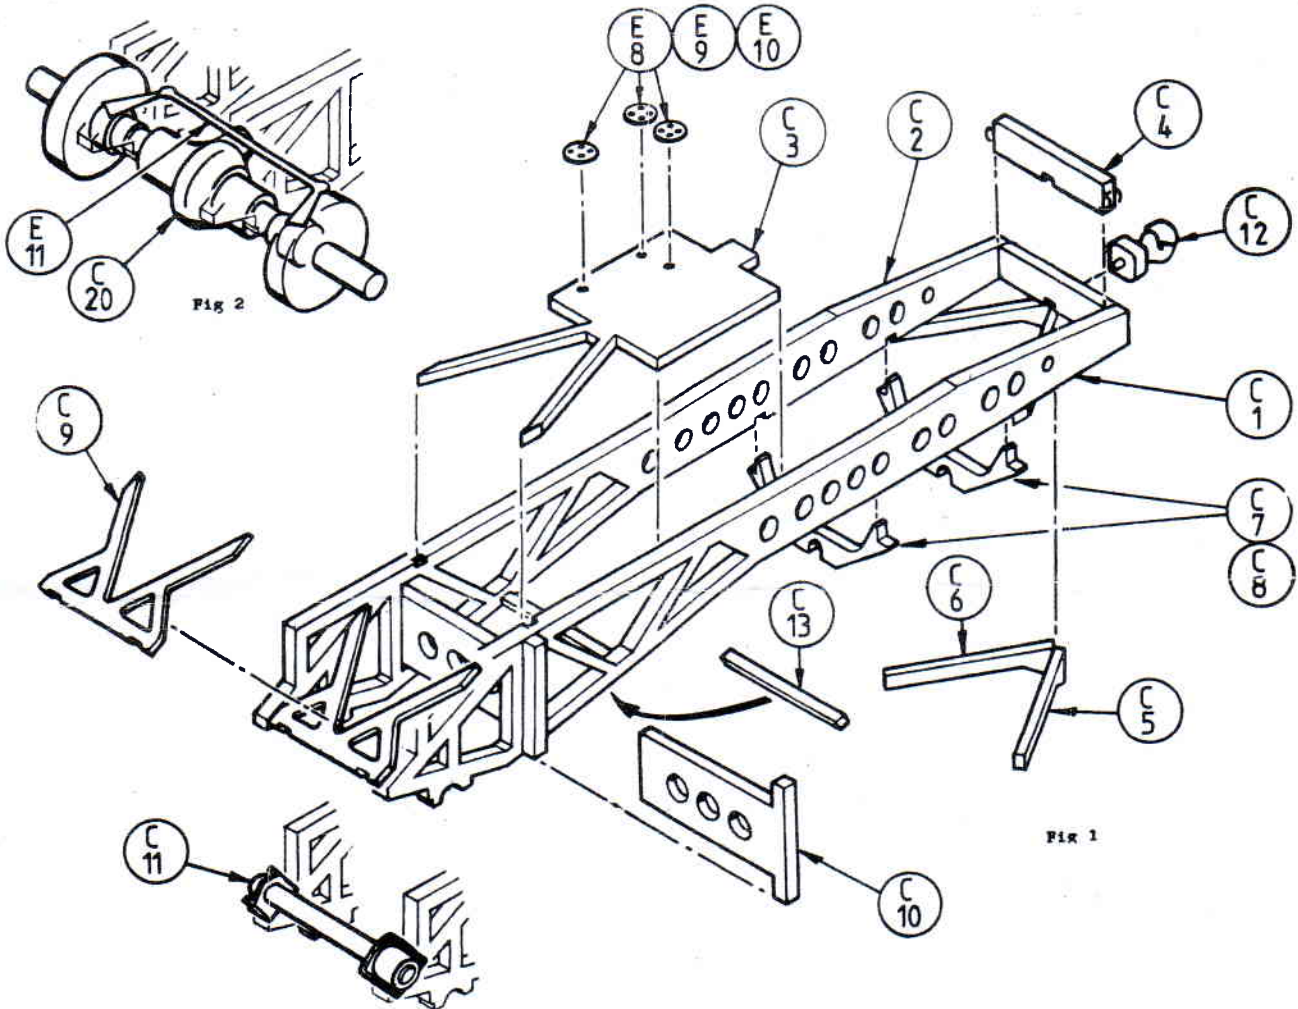

Fig 1
- b) Carefully assemble the main chassis side frames C1 & C2, with the top chassis platform C3, rear cross piece C4, front cross piece C9 as shown on diagram 1. Notice casting lugs on the ends of several of these cross pieces should be removed before assembly, these are to ensure the parts cast correctly. Slight notches are moulded on the inside surface of parts C1 & C2 to locate these cross pieces. Ensure the chassis is level and square before proceeding! Fig 1